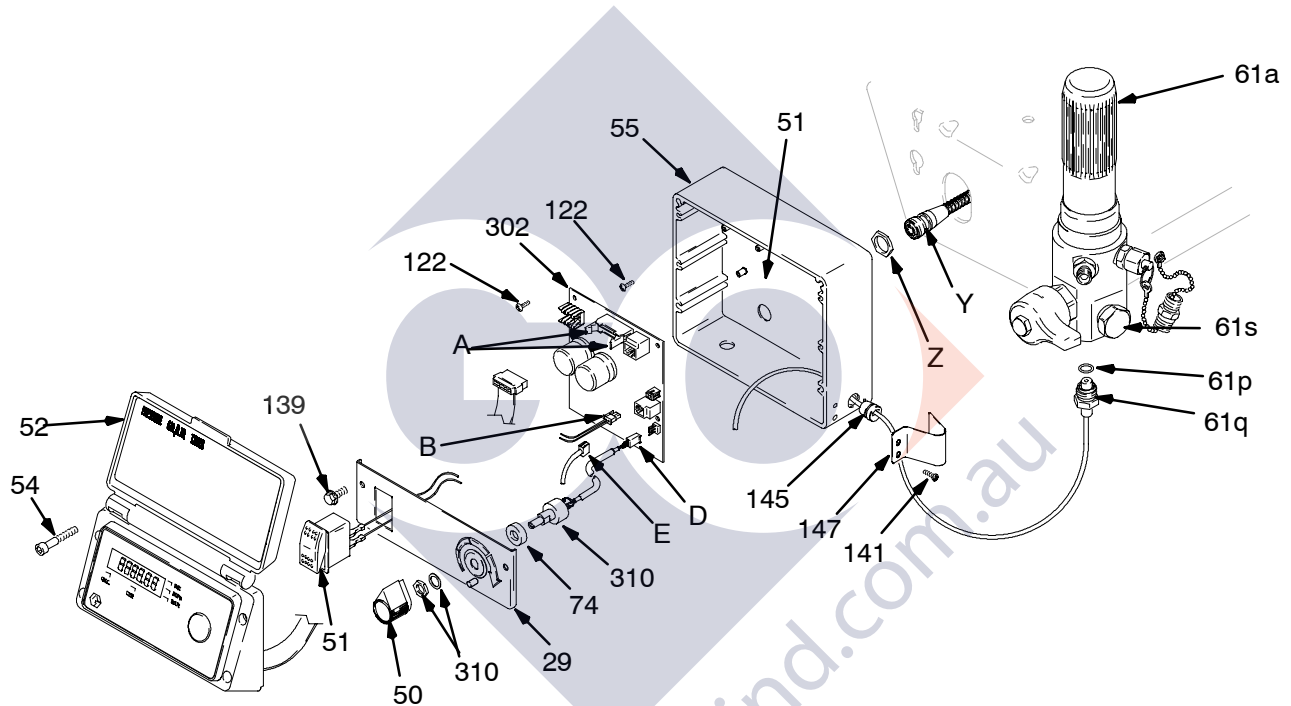

Fig. 8
2. Fig. 8. Remove four screws (54) and display/cover (52).
3. Pull display connector wings (A) open on PC board and pull display connector out.
4. Disconnect ON/OFF switch connector (B) from PC board.
5. Press in on two retaining tabs on each side of ON/OFF switch (51) and remove switch.
2. Fig.8. Remove four screws (54) and display/cover (52). Pull display connector wings (A) open on PC board and pull display connector out.
3. Remove 2 screws (139).
- Lead (D) from potentiometer.
- Lead (E) from transducer.
- Lead (B) from On/Off Switch connector.
5. Fig. 8. Remove five screws (122) from control board and ground wire screw (122).
6. Remove connector (Y) at backside of pressure control. Remove jam nut (Z) and control board (302).
1. Fig. 8. Install control board (302) and jam nut (Z). Install connector (Y) at backside of pressure control.
2. Install ground wire and control board (302) with six screws (122).
- Connect ON/OFF switch connector (B).
- Lead (E) to transducer.
- Lead (D) to potentiometer.
4. Fig. 8. Push display connector into PC board close display connector wings (A) on PC board. Install display/cover (52) with four screws (54).
2. Fig. 8. Remove four screws (54) and cover (52).
3. Disconnect lead (E) from control board (302).
4. Remove two screws (141) and guard (147). Carefully pull transducer connector through rubber grommet (145).
1. Fig. 8. Install packing o-ring (61p) and pressure control transducer (61q) in filter housing (61e). Torque to 30–35 ft-lb.
2. Carefully feed transducer connector through rubber grommet (145). Install guard (147) with two screws (141).
3. Connect lead (E) to motor control board (302).
4. Install cover (52) with four screws (54).
2. Fig. 8. Remove four screws (54) and cover (52) and two screws (139).
3. Disconnect lead (D) from control board (302).
4. Loosen set screws on potentiometer knob (50) and remove knob, shaft nut, lockwasher (310) and pressure adjust potentiometer (310).
5. Remove spacer (74) from potentiometer (310).
1. Install spacer (74) on potentiometer (310).
2. Fig. 8. Install pressure adjust potentiometer (310), shaft nut, lockwasher (310) and potentiometer knob (50).